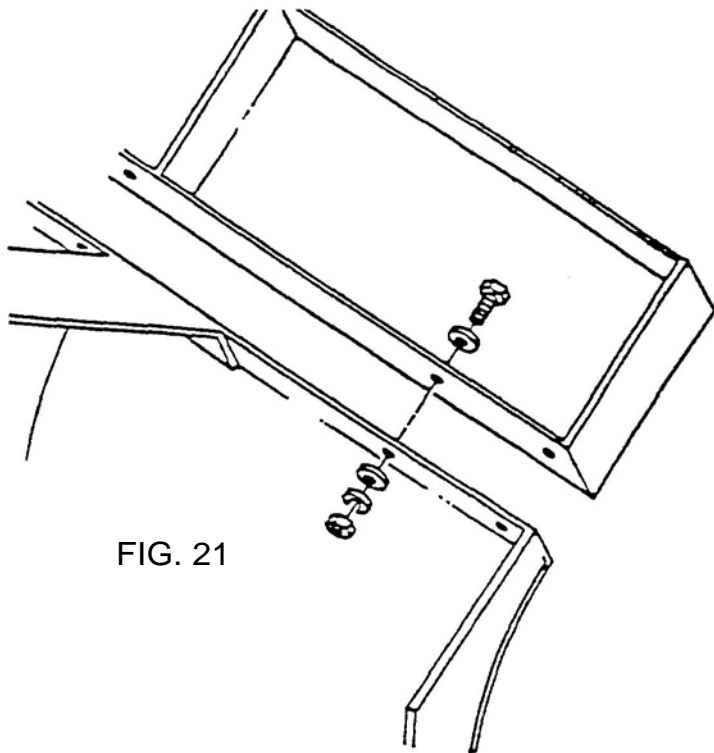

FIG. 21
- (1) Attach the blade extension to the top of the blade.
Use a 1/2-13 x 1 1/4 hex hd. capscrew, nut, lock-washers and (2) flatwashers in each hole as shown in FIG. 21. Tighten securely.